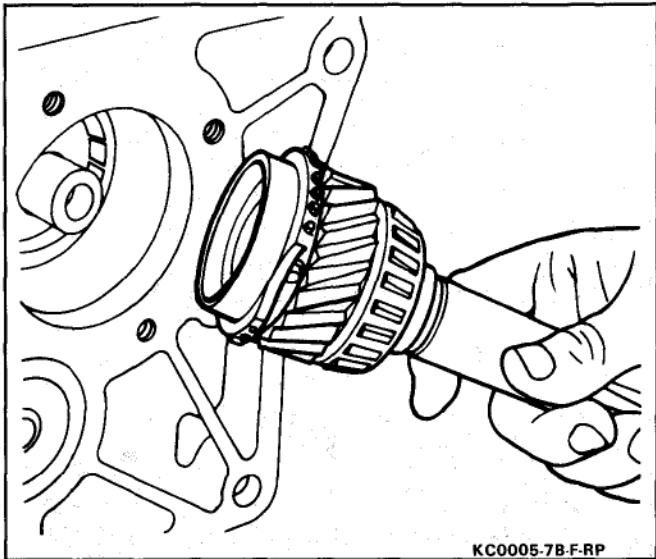

Figure 14 Drive Gear
- Be careful not to drop the 15 roller bearings, thrust bearing, or race from the rear of drive gear (Figure 14).